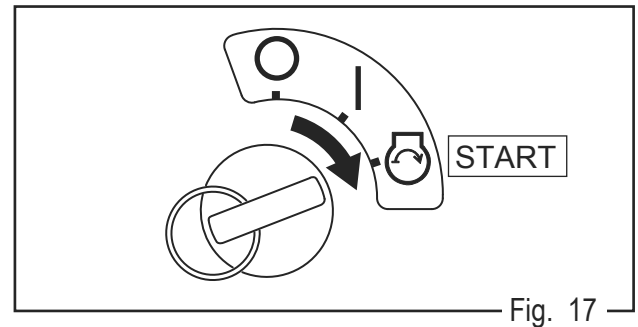

Fig. 17
- c. Turn the key over to “Start”. Operate the cell starter to start the engine. After the engine starts gently take your hand off the key. (Fig. 17)